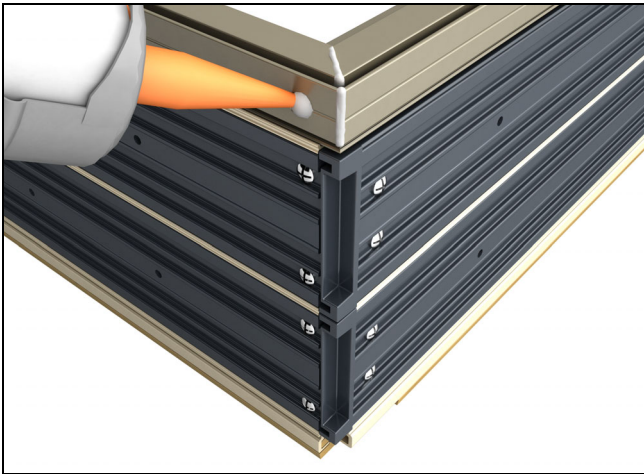

Figure 116
9. Inject both frame cladding corner key holes with sealant until squeeze out occurs. Fasten using a #8 x 1 1/2" flat head screw into each corner key. See figure 116.